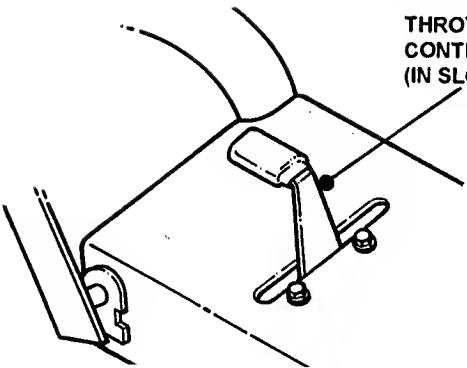

FIGURE 5
3. Move Throttle Control Lever to SLOW (turtle) position. See Figure 5.
4. Move Throttle Control Lever to SLOW (turtle) position. See Figure 5.